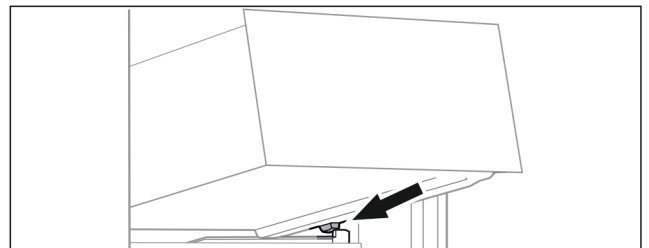

Fig. 35
► Place drawer at an angle behind the stoppers on the moulded rib. (see Fig. 35)